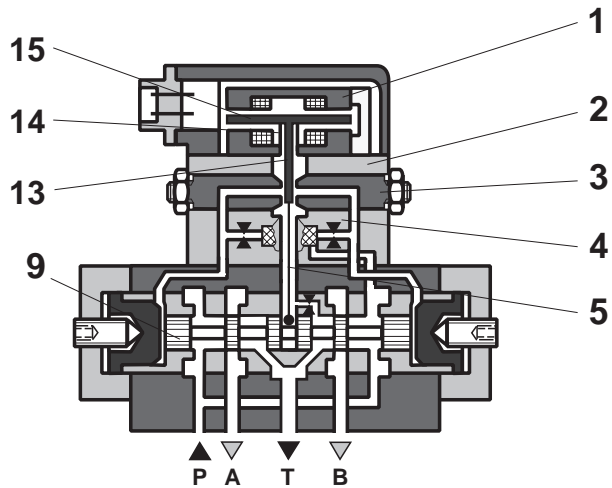

Fig 1.1
Mechanical feedback on the 2nd stage (Fig.1.1 and 1.2) The control spool in the second stage (9) is physically connected to the torque motor (1) with the mechanical feedback linkage (5).